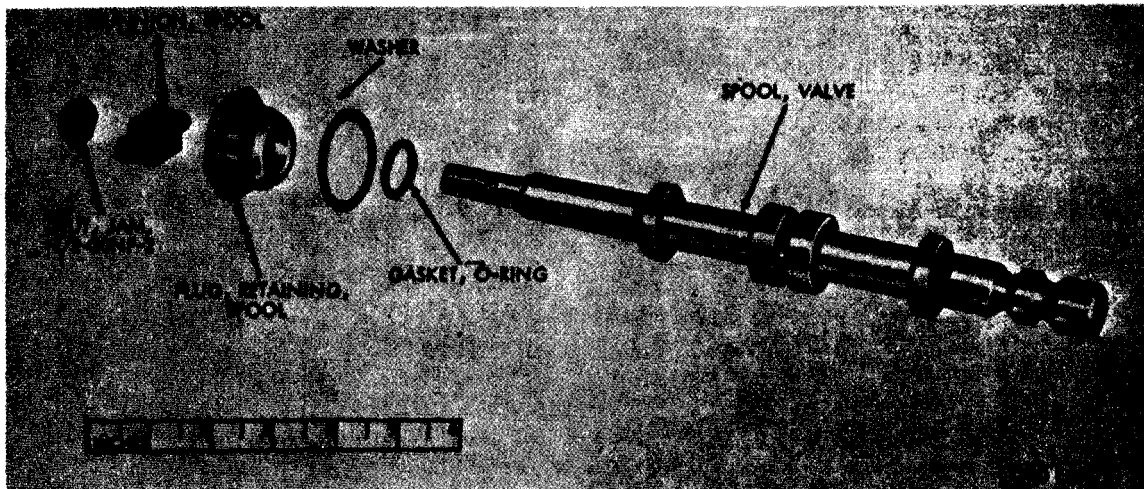

Figure 101. Control valve spool assembly - exploded view
- (b) Remove the jam nut, spool trunnion, spool retaining plug, washer, and O-ring gasket from valve spool (fig. 101). Discard O-ring gasket.
(1) Cleaning.
- (1) Assemble control valve spool (fig. 101). Install washer on spool retaining plug, and position new O-ring gasket and spool retaining plug with washer over threaded end of valve spool onto finished surface of spool. Install spool trunnion and 1/2-20NF-3 jam nut on threaded end of valve spool.